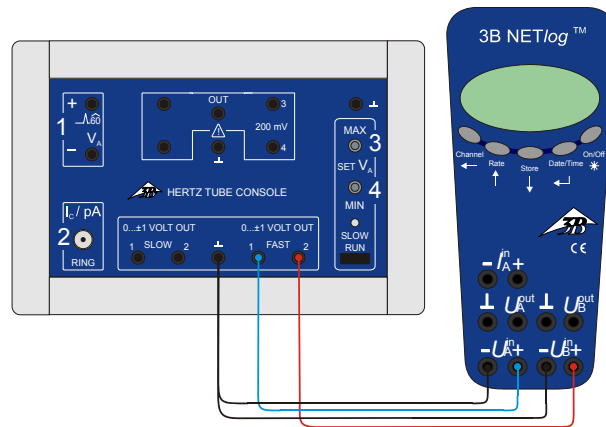

Fig. 2 Connection of 3B NET/log™ to the control unit for critical potential tubes
- Connect the output “Fast 1” from the control unit to input A of the 3B NET/log™ unit and the output “Fast 2” to input B. (See Fig. 2)